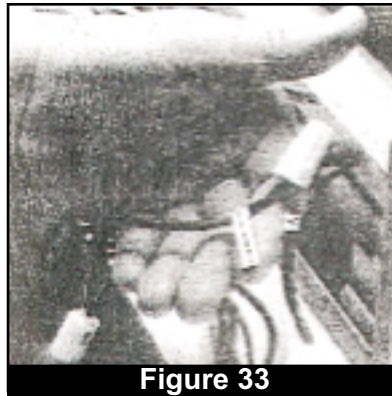

Figure 33
2. Mark all the wires connected to the power cord with a color code or number to make proper re-connection easy. (Fig. 33)